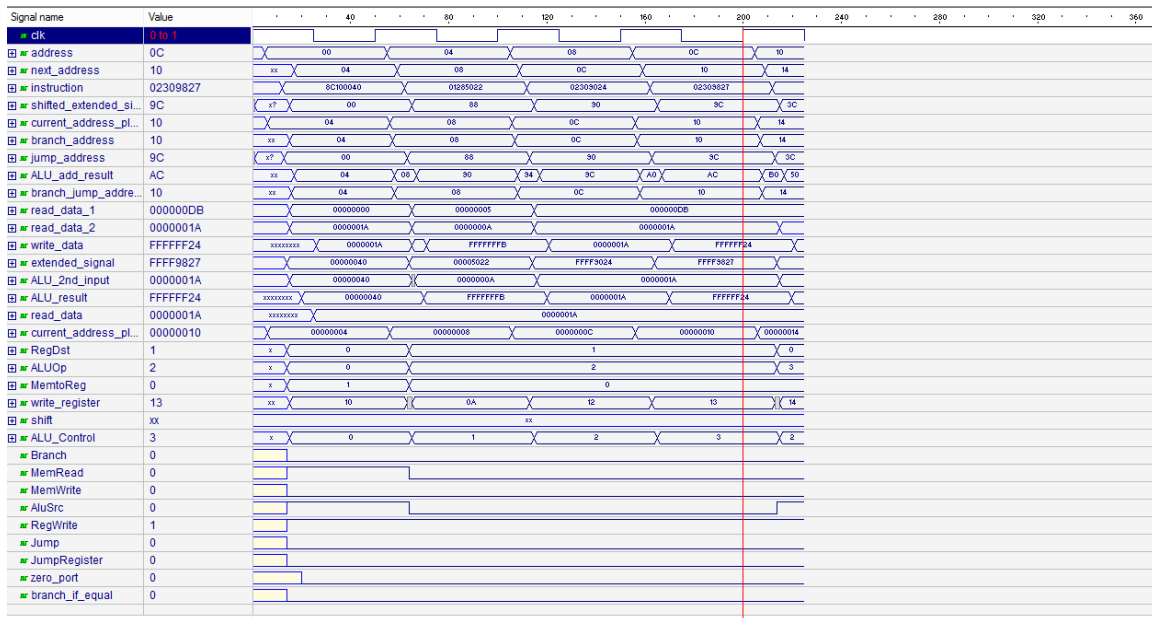

Figure 9 Instruction #4 waveform
- Figure 9 shows wave forms of all the internal signal of the datapath after the instruction has finished executing.